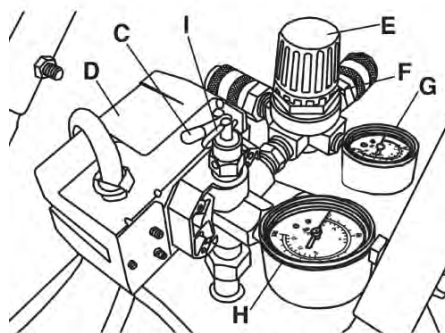

FIGURE 5
ON/AUTO-OFF SWITCH (C) FIG.5
PRESSURE SWITCH (D) FIG.5
REGULATOR (E & F) FIG.5
OUTLET PRESSURE GAUGE(G) FIG.5
TANK PRESSURE GAUGE (H) FIG. 5.
SAFETY VALVE (I) FIG. 5. If the pressure switch does not shut off the air compressor at its cutout pressure setting, this safety valve will protect against high pressure by popping out at its factory set pressure (slightly higher than the pressure switch cut-out setting).
9. Pull ring on safety valve (I) Fig. 5, allowing air to bleed from the tank until tank pressure is approximately 20psi. Release safety valve ring.
NOTE: If drain valve is plugged, pull ring on safety valve (I) Fig. 5, and hold until air pressure has been released. The valve can then be removed, cleaned, and reinstalled.
4. Pull ring on safety valve (I) Fig. 5, allowing air to bleed from the tank, until tank pressure is approximately 20psi. Release safety valve ring.
- NOTE: If drain valve is plugged, pull ring on safety valve (I) Fig. 5, and hold until air pressure has been released. The valve can then be removed, cleaned, and reinstalled